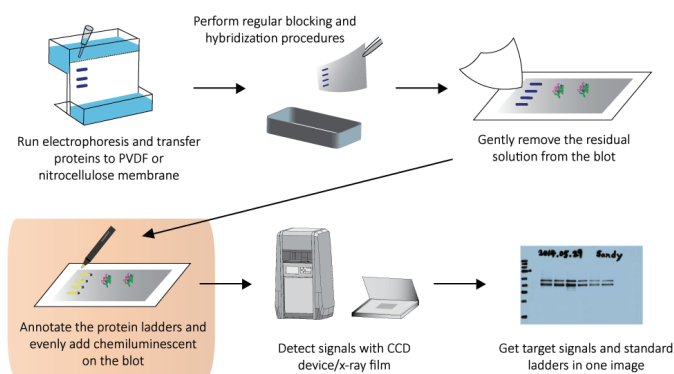

Figure 1. Use LuminolPen™ EZ to take notes and mark prestained protein marker on the blot
Figure 1. Labeling molecular weight and note on the membrane with LuminolPen™. (A) and (C) are general Western blot chemiluminescence detection image; (B) and (D) are the image using LuminolPen™ to indicate the pre-stained marker.
Figure 1. Signal strength comparison of Casein, BSA, milk, and BlockPRO™ Blocking Buffer. Loading 30 µg cell lysate (HepaG2) and detect with anti-AMPK (mouse, 1:1,000). Secondary antibody : anti-mouse IgG-HRP 1:10,000. Membrane: Hyond™ P. Detection: Hyperfilm™ ECL. All results were exposed for 30 seconds and capture by X-ray film.
Figure 1. BlockPRO™ Protein-Free Blocking Buffer is better than protein-based blocking buffers (skim milk, BSA and casein) for detection of target protein in Western blotting. THP-1 cell lysates were prepared and separated by electrophoresis. The proteins were transferred to PVDF and blocked for 1 hour at room temperature with the indicated blocking buffer, probed with mouse anti-pAMPK followed by anti-mouse HRP and detected by chemiluminescence. All results were exposed to X-ray film for 30 seconds.
Figure 1. BlockPRO™ 1 Min Protein-Free Blocking Buffer enhanced the signal intensity and shorten the blocking time to 1 min. 20 µg of Huh-7 cell lysates were serially diluted and separated by electrophoresis. The proteins were transferred to PVDF and blocked for 1 min or 1 hour at room temperature with BlockPRO™ 1 Min or 1 hour in competitor's product (as indicated), probed with mouse anti-ACC followed by anti-mouse HRP and detected with LumiFlash™ Ultima Chemiluminescent Substrate.
Figure 1. Application of LumiFlash™ Prime on the ECL-base Western Blot experiments. Label the positions of molecular weight marker (VC01, VisualProtein) and notes the PVDF membrane with LumiFlash™ Prime. Capture the annotated signal according standard ECL reaction by image Capture System.
Figure 1. The comparison of WB application for LumiFlash Prime, VisGlow, and Luminata Crescendo. HeLa cell lysate with 1/2 serial dilution from 20 µg was separated by 12.5% SDS-PAGE and probed by anti β-actin. All results were exposed to X-ray film for 1 minute.